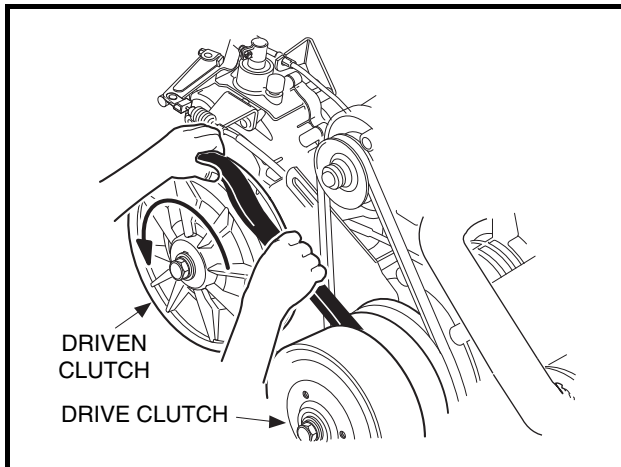

Figure 17-2 Drive Belt Removal
3. Grasp the belt midway between the drive and driven clutches. Lift upward on the belt to force the sheaves of the driven clutch apart, then roll the belt off the driven clutch by rotating the clutch counterclockwise (**Figure 17-2, Page 17-3**). **See following CAUTION.**